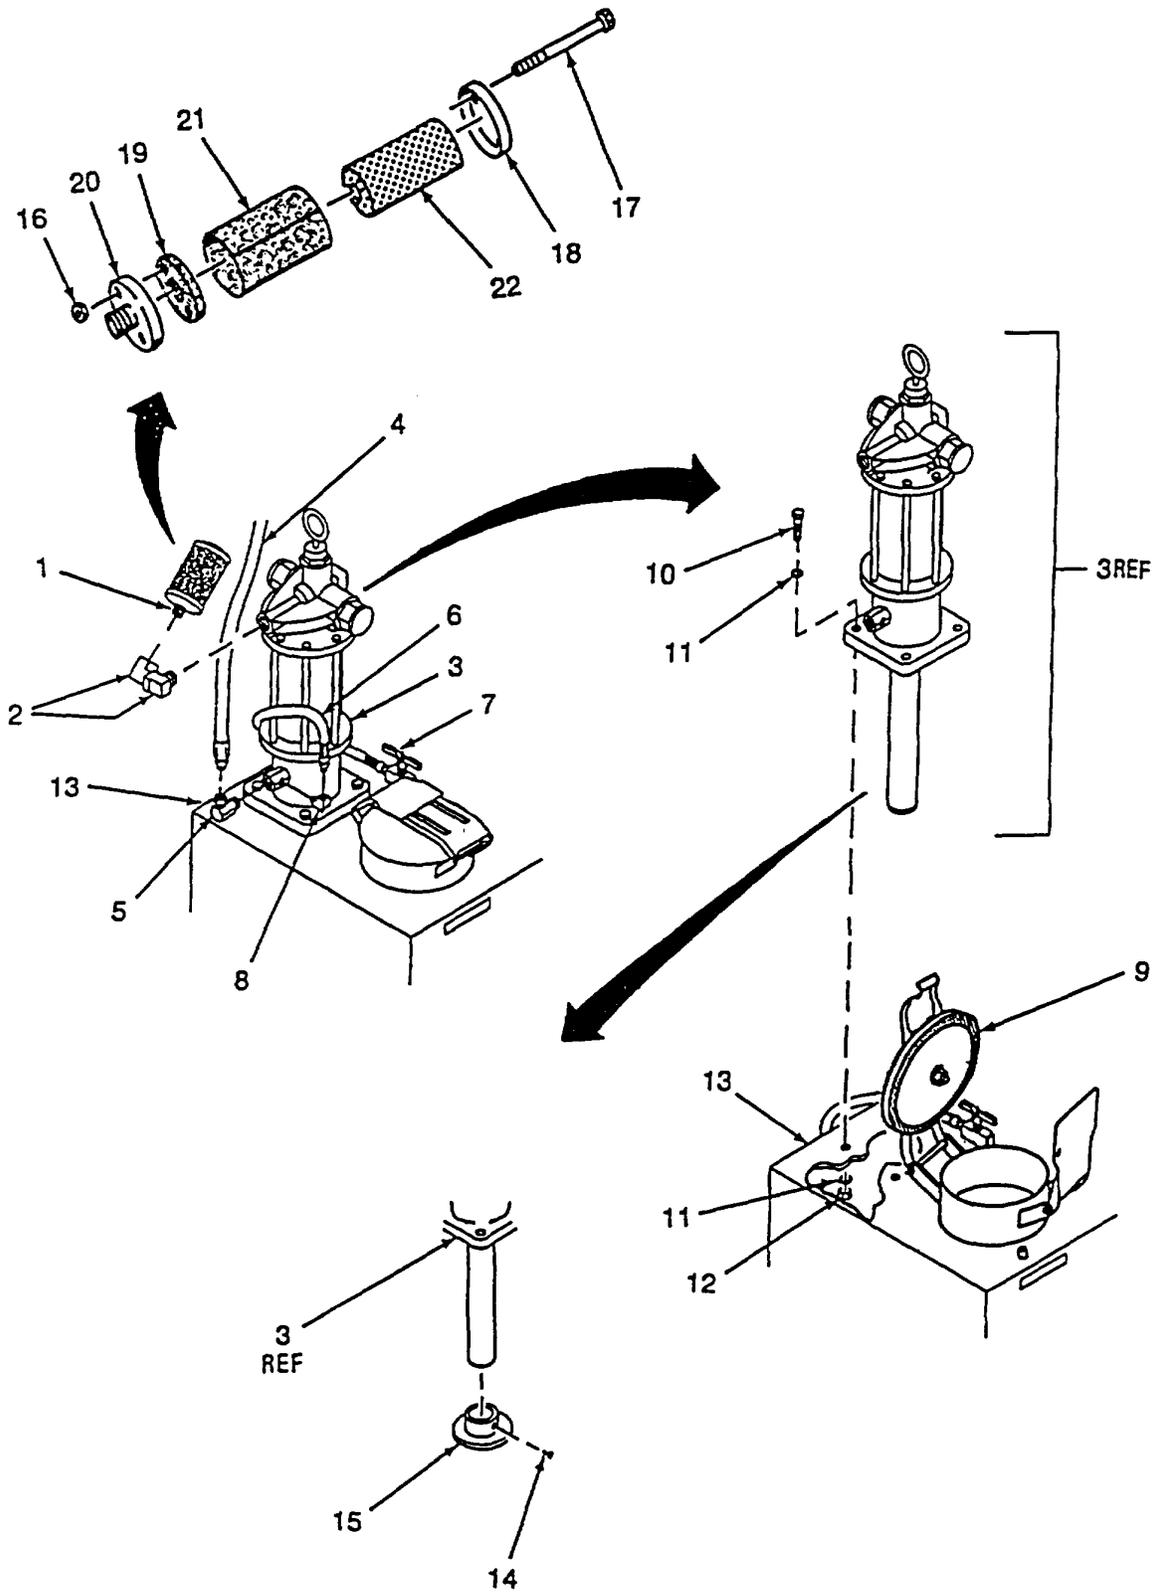

Figure 4-42. Low and High Pressure Pumps and Pump Mufflers
a. Removal. (Refer to Figure 4-42).
- (1) Remove pump mufflers (1) from elbows (2). Remove elbows (2) from pumps (3)
- (2) Disconnect hose assemblies (4) from elbow swivel adapters (5) Remove elbow swivel adapters (5) from pumps (3).
- (3) Remove hose assemblies (6) from needle valves (7) and elbows (8) Remove elbows (8)
- (4) Open manhole cover (9) to gain access to attaching hardware on pumps (3).
- (5) Remove four hex head - cap screw (10), and four washers (11) and four hex, lock nuts (12), holding pumps (3) onto lube tank (13). For high pressure pump only, loosen two set screws (14) on baffle (15). Remove baffle from high pressure pump (3) tube.
- (6) Lift out pumps (3) and allow excess lubricant to drip into lube tank (13) wipe tube clean.